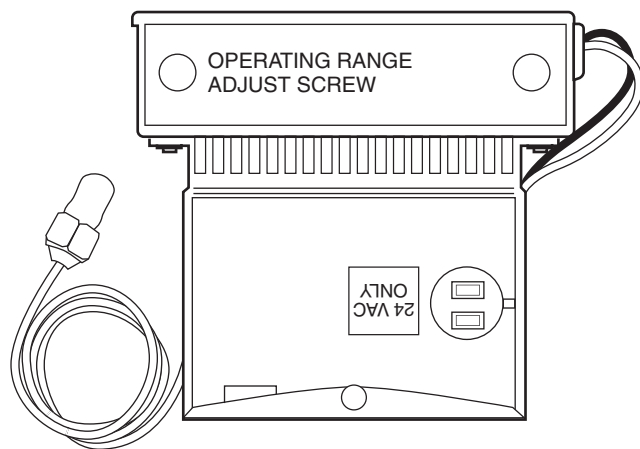

Fig. 41 — Operating Range Adjustment Screw Location
2. Access the operating range adjustment screw through the opening in the top left corner of the P66. See Fig. 41.